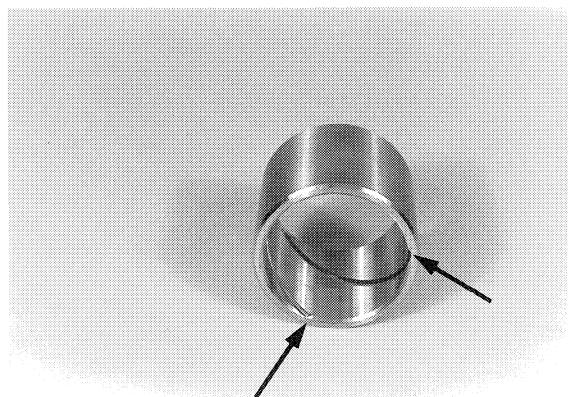

Figure 62
**Pay attention to the installation position of the bush - runout of the lubrication grooves (see Arrows, Figure 62) must face the grease nipple 18 !**
Pay attention to the installation position of the bush - runout of the lubrication grooves (see Arrow, Figure 62) must face the grease nipple 3 !